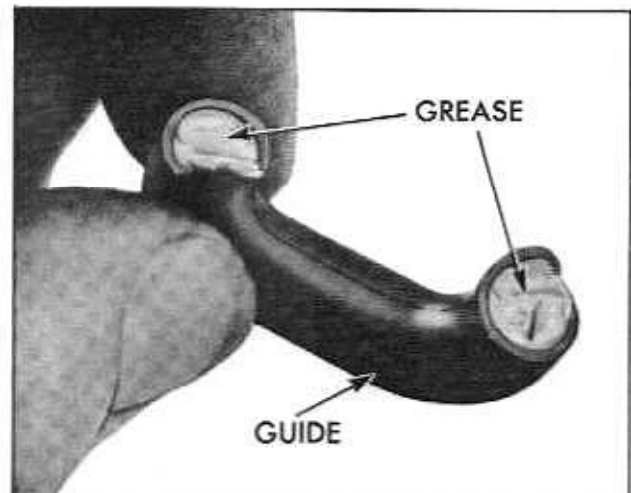
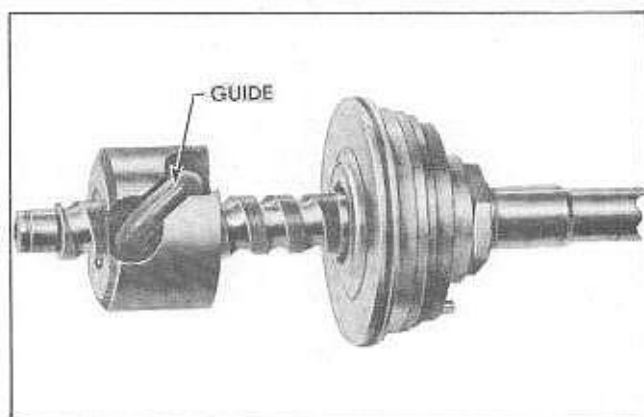

Fig. 9-50 Ball Return Guide
Fig. 9-51 Ball Guide in Place in Ball Nut
4. Fill one-half of ball return guide with remaining 6 balls. Place other half of guide over balls and plug each end with heavy grease to prevent balls from falling out when installing guide into ball nut (Fig. 9-50). Push guide into guide holes in ball nut (Fig. 9-51). If the guide does not push down easily, tap guide lightly with a soft hammer to seat it. Wrap a strip of tape around ball nut and guide to prevent the guide from falling out.